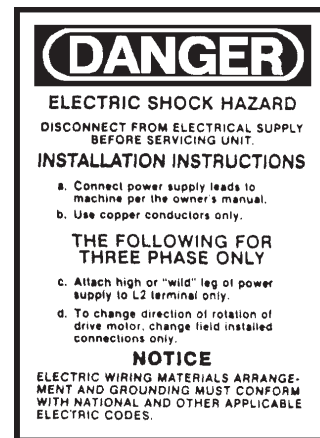

Figure 8. Danger Decal
- D. Please read decal located on lower electrical box cover (Fig. 8)